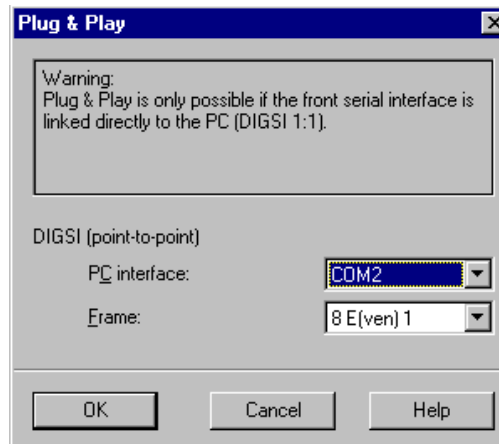

Figure 3-6 Plug & Play Dialog Box for Communication between Device and PC
- ❑ Select **Folder** by clicking on the item in the newly opened window. Then click on **DIGSI > Device (Plug & Play)**. The **Plug & Play** dialog box opens, as shown in Figure 3-6.